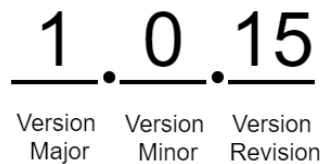

Figure 5-2: Example FW Version Format
- Bits 32 to 55 of the value contain the application revision numbers which define the FW version. The FW version is reported in the format as shown in Figure 5-2, which is shown using the example FW v1.0.15 (value 0x 01 00 0F).
- Bits 8 to 31 of the value contain the LoRaMAC version numbers. The format is the same as shown in Figure 5-2. This number is not to be confused with the LoRaWAN specification version according to the LoRa Alliance standards. The LoRaMAC version number is the version of the LoRaMAC layer of the FW developed by TEKTELIC.